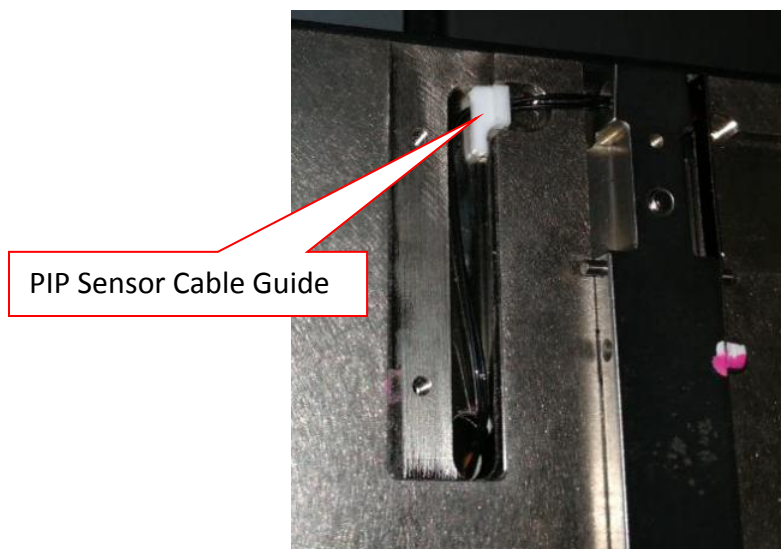

Figure 5 PIP Sensor Cable Guide Removal
6. Remove PIP Sensor Cable Guide as shown in Figure 5.